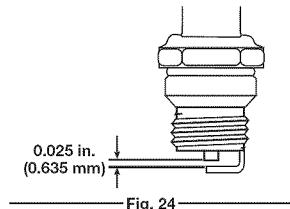

Fig. 24
3. Replace a cracked, fouled or dirty spark plug. Set the air gap at 0.025 in. (0.635 mm) using a feeler gauge (Fig. 24).